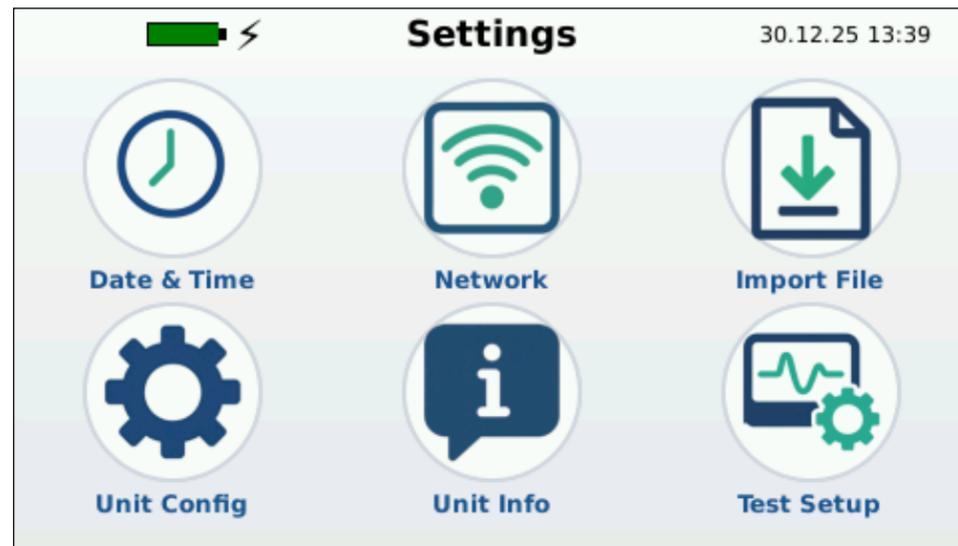

Figure 27
1. On the main screen, select **Settings** to open the Settings screen. The Settings screen (*Figure 27*) has the following options: